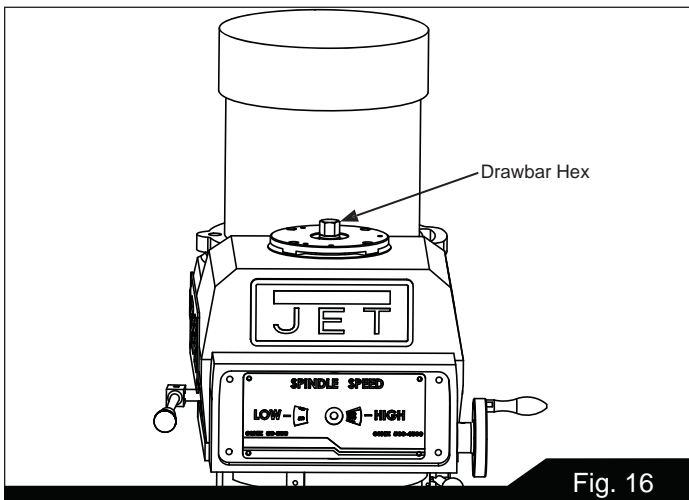

Fig. 16
1. Using the wrench provided with the machine, loosen the draw bar two or three turns (turn counterclockwise) using the draw bar hex (Figure 16).